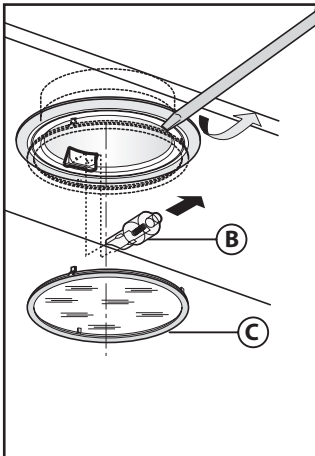

Fig.6
• Replacing halogen light bulbs (Fig.6):